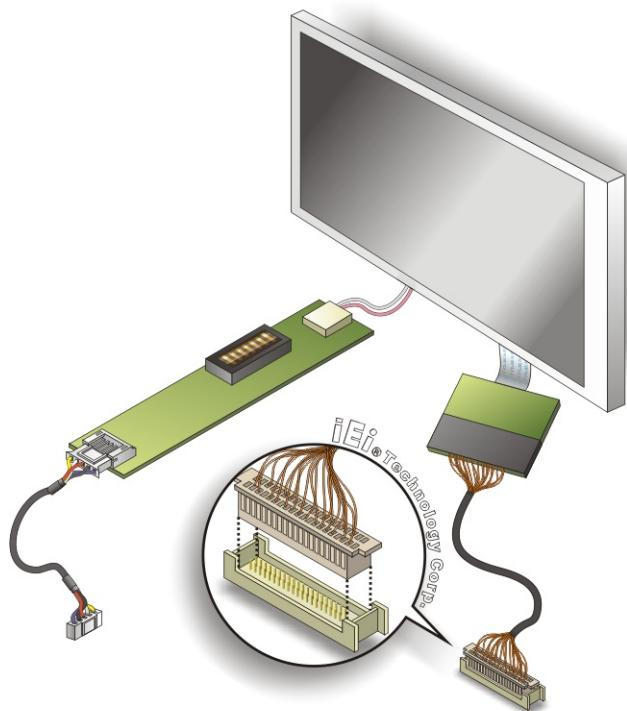

Figure 4-25: TTL Connector
Step 2: Insert the cable connector. Insert the connector from the LVDS PCB driving board to the LVDS connector as shown in Figure 4-25. When connecting the connectors, make sure the pins are properly aligned.
Step 2: Insert the cable connector. Insert the connector from the TTL PCB driving board to the TTL connector as shown in Figure 4-25. When connecting the connectors make sure the pins are properly aligned.